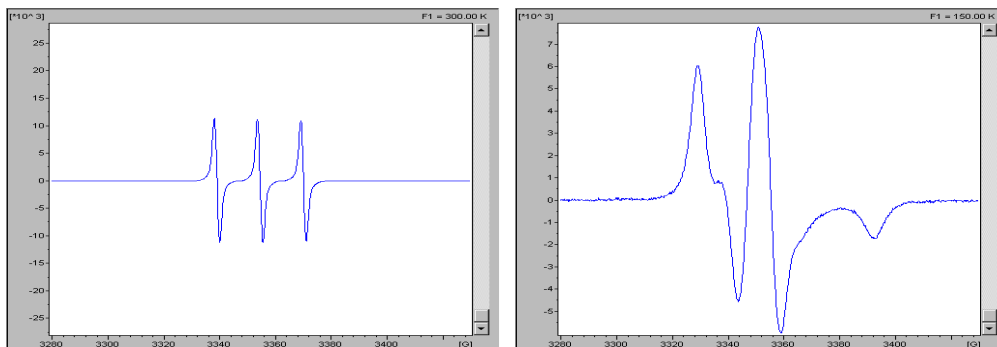

Figure 3-7 The first (left) and last (right) spectrum from the example temperature sweep experiment using TEMPOL in toluene.
5. **Run the Experiment.** To start the experiment, click the **Run** button in the toolbar. The temperature automatically adjusts to the set temperature of 300 K and then performs the first field scan. You may notice the slider bar on the right side of the spectrum window updating the number of the current field scan. If for any reason you want to abort the experiment before all the field scans have been performed, click the green **Stop** button. This stops the experiment after the current field scan is finished. If you use TEMPOL in toluene, your first spectrum should be similar to the top spectrum shown on the left in Figure 3-7. The last spectrum of the data set should look like the spectrum on the right in Figure 3-7. By clicking the arrow in the scroll bar on the left of the spectrum window you will see the spectra taken at the various temperatures.